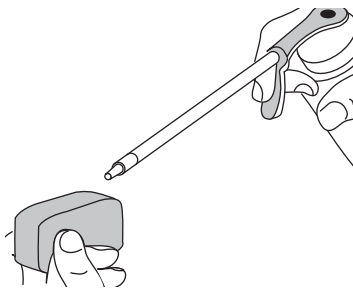

Fig. 25
4. Apply enough clean SAE 30 motor oil to lightly coat the filter (Fig. 25).